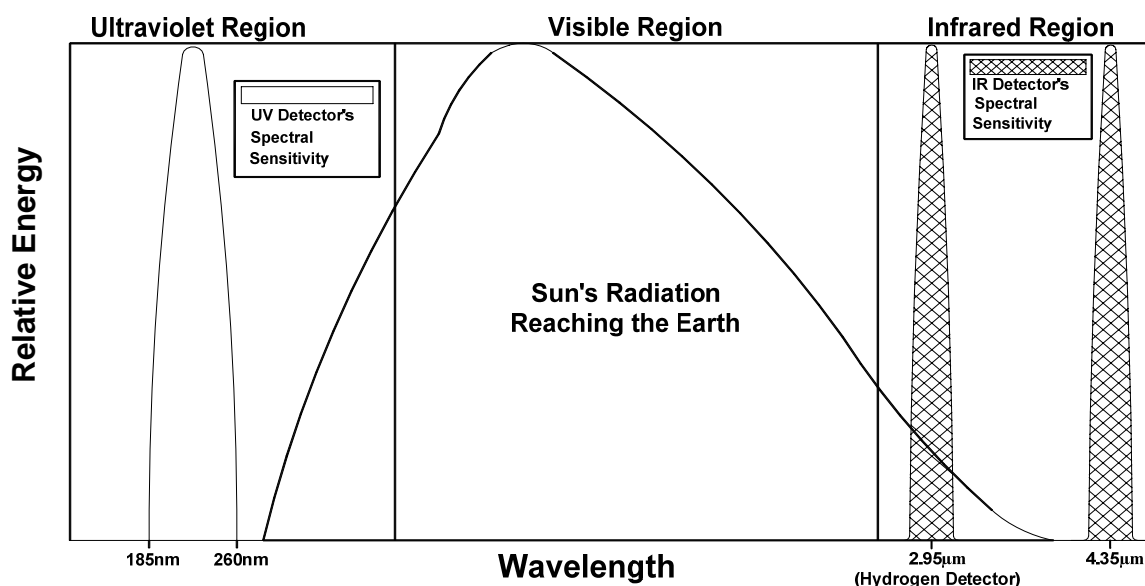

Figure 23: Spectral Response of UV and IR Detectors
The Model FL3101H is a flame detector, which contains an ultraviolet phototube that responds to ultraviolet (UV) radiation in the 185 to 260 nanometer region (Figure 23). When radiation from a flame reaches the cathode plate within the UV detector tube, electrons are ejected from the cathode plate. These electrons are accelerated towards the positively charged anode of the tube. They collide with molecules of an ionizable gas, with which the tube is filled. This emits more electrons and produces an avalanche condition. More electrons are released which creates a momentary electron flow from the cathode to the anode. This momentary current (pulse) recurs at a rate proportional to the intensity of the UV radiation.
The UV portion of the detector, as described in the previous section, is combined with an infrared detector, which responds to changes in the intensity of infrared radiation. By sensing very specific wavelengths in both the UV and IR spectra (Figure 23) and then processing these signals with a microcomputer, a very high degree of discrimination is achieved.